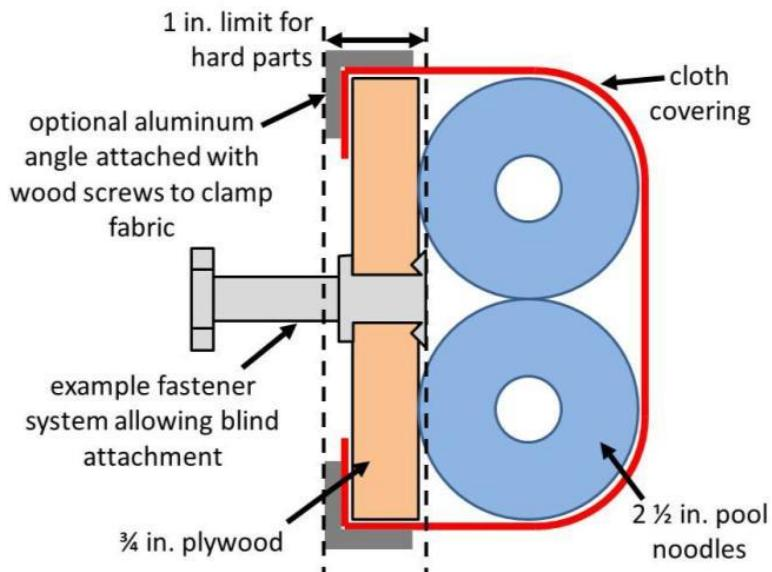
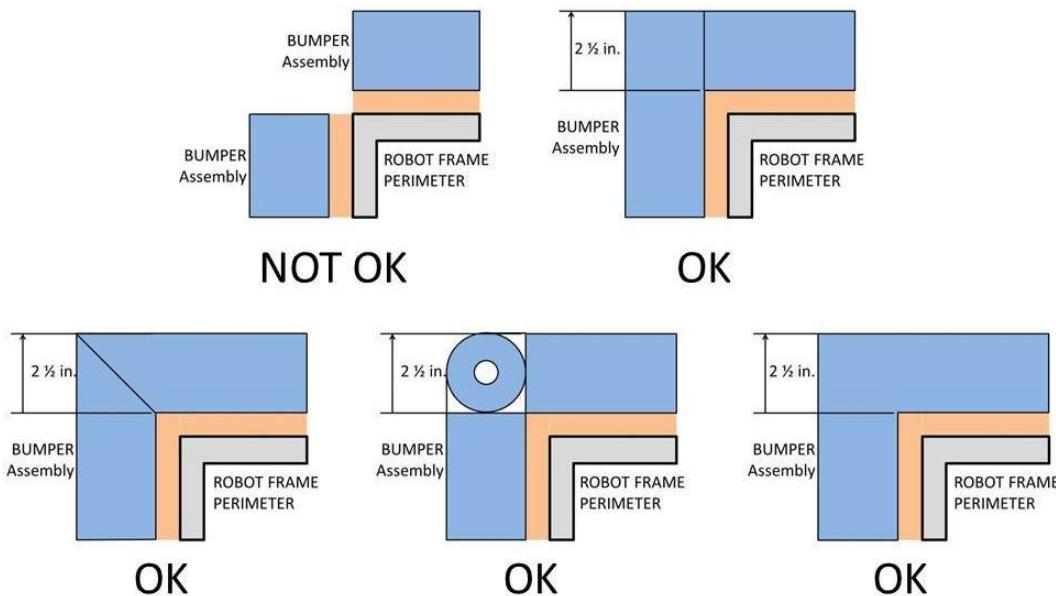

Figure 10-6 BUMPER Vertical Cross Section
Figure 10-7 Soft Parts of BUMPER Corners
**R31.** BUMPERS must be constructed as follows (see Figure 10-6):
- C. use a stacked pair of approximately  $2\frac{1}{2}$  in. (nominal) round, petal, or hex "pool noodles" (solid or hollow) as the BUMPER cushion material (see Figure 10-6). All pool noodles used in a BUMPER set (e.g. Red set of BUMPERS) may not be deformed and must be the same diameter, cross-section, and density (e.g. all round hollow or all hex solid). Cushion material may extend up to  $2\frac{1}{2}$  in. (~63 mm) beyond the end of the plywood (see Figure 10-7). To assist in applying the fabric covering, soft fasteners may be used to attach the pool noodles to the wood backing, so long as the cross section in Figure 10-6 is not significantly altered (e.g. tape compressing the pool noodles).
- D. be covered with a rugged, smooth cloth. (multiple layers of cloth and seams are permitted if needed to accommodate R28, provided the cross section in Figure 10-6 is not significantly altered).
- E. optionally use metal angle, as shown in Figure 10-6 or other fasteners (e.g. staples, screws, etc.) to clamp cloth.
**R32.** Corner joints between BUMPERS must be filled with pool noodle material. Examples of implementation are shown in Figure 10-7.